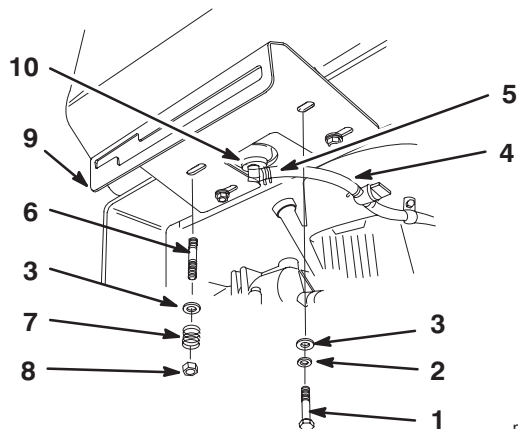

Figure 3
6. Secure the right side control panel and fuel tank to the rear frame with 2 bolts (5/16 x 7/8 in. (22 mm)), lock washers (5/16 in.) and washers (5/16 in.) (Fig. 3).
7. Secure the left side control panel and fuel tank to the rear frame with 2 studs, washers (5/16 in.), springs and locknuts (5/16 in.) (Fig. 3).
8. Slide the hose clamp onto the fuel line (Fig. 3).
9. Push the fuel line onto the fuel tank connection and secure it with a hose clamp (Fig. 3).